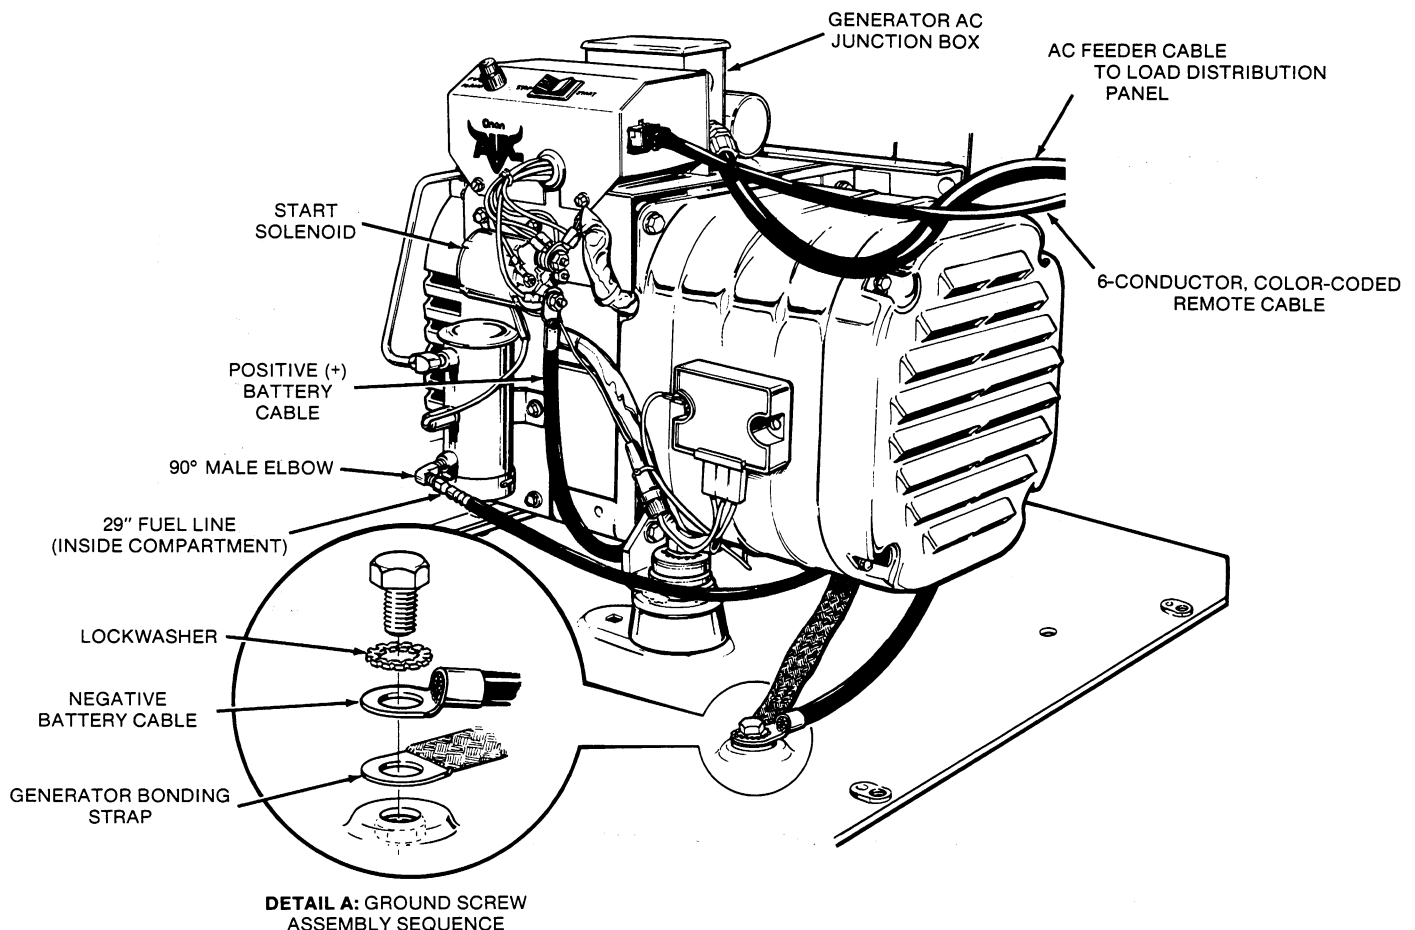

FIGURE 14. BATTERY AND GROUND CABLE CONNECTIONS FOR SIDE-MOUNTED INSTALLATIONS ONLY
1. Connect positive battery cable to large bottom terminal on start solenoid. It is located on the front of the generator set (below control) as shown in Figures 14 and 15.
2. Connect negative battery cable to the same location on set mounting tray as the bonding strap for the generator set as shown in Figure 14. Set bonding strap mounting bolt must be disconnected and then reconnected along with negative battery cable to this same location. Assemble mounting hardware and negative battery cable lug as shown in Figure 14, detail A. Mounting hardware is supplied in accessory package.